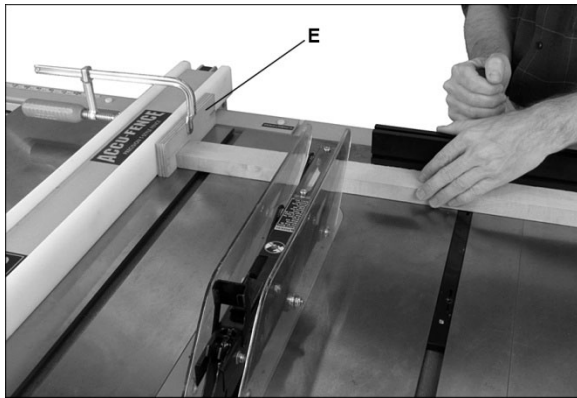

Figure 9-8
- Do not use miter gauge and rip fence in the same operation unless provision is made by use of a facing board on the fence, to allow the cutoff section of workpiece to come free before the actual cut begins (See Figure 9-8).
Crosscutting should **never** be done freehand nor should the fence be used as an end stop unless an auxiliary block (E, Figure 9-8) is clamped to the front of the blade area such that the cutoff piece comes free of the block before cutting begins.